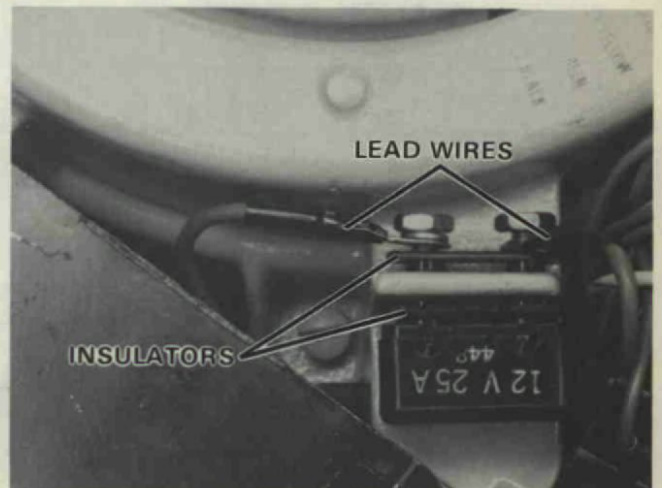

Figure 27. Installing Circuit Breaker.
2. Connect lead wires. Figure 27.